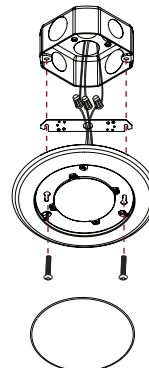

Figure 3
4. Mount luminaire to the junction box using the provided bracket (NLOPAC-4BKT-2), and screws through the keyhole slots. (Figure 3)